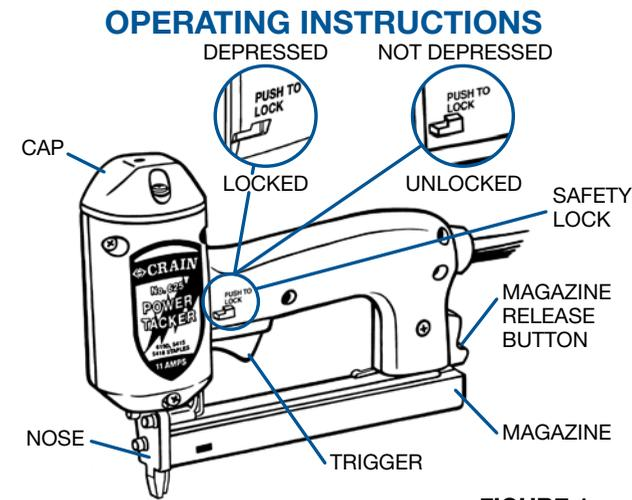

FIGURE 1
This tool is designed with a safety lock to prevent accidental firing. Depress the lock (Figure 1) whenever you need to plug in the tacker, load staples, clear a jam, or you need to leave the tacker unattended.
See figure 1. With each pull of the trigger (located under the handgrip), the tacker completes one cycle and fires one staple. Make sure your finger is not on the trigger when plugging in, or loading staples. Do NOT point the nose of the tacker at anyone! Place the nose directly onto the material being fastened.
This tacker is equipped with a sliding on/off safety lock, located above the trigger at the front of the hand grip, which is used to prevent accidental firing. Be sure the safety lock is depressed on the side marked "PUSH TO LOCK" (figure 1) when plugging the tacker in, loading staples, or whenever the tacker is not in use.
1. Make sure the tacker is unplugged and the safety lock is depressed as shown in figure 1 above.
3. Push the safety lock so that it is not depressed on the side marked "PUSH TO LOCK" (figure 1).